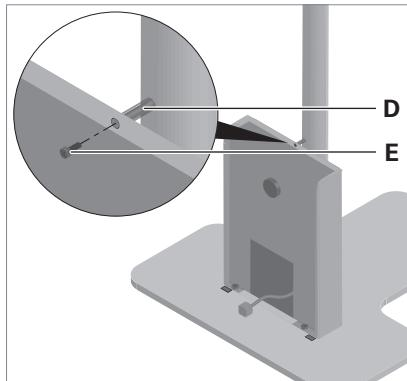

Fig. 3: Mounting the sleeve.
- Hold the sleeve **D** between the supply unit and the column and fasten the supply unit using the delivered screw **E**, see Fig. 3.